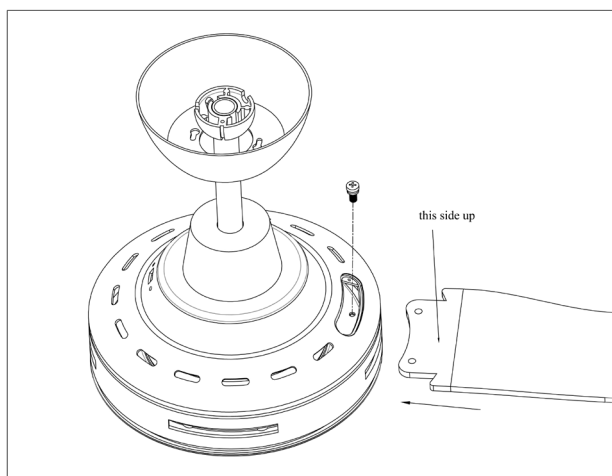

Fig.4b
2. Insert blades one at a time through four slots around the centre band and secure with three screws for each blade through the top opening. Repeat this procedure for all blades. (See Fig.4b)